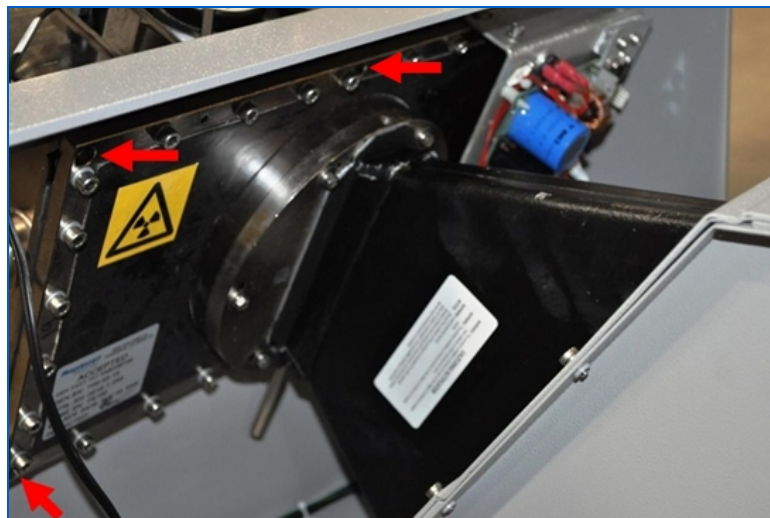

Figure 270: Generator Mounting Bolts Close-up
9. Remove the generator mounting bolts and take the generator out of its frame (Figure 270).